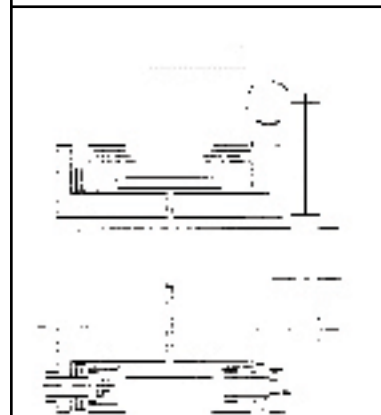

FIGURE 4
- 1) Attach a dial indicator to one shaft. Place the indicator pointer on either face of the adapter flange closest to that hub as shown in Figure 4.